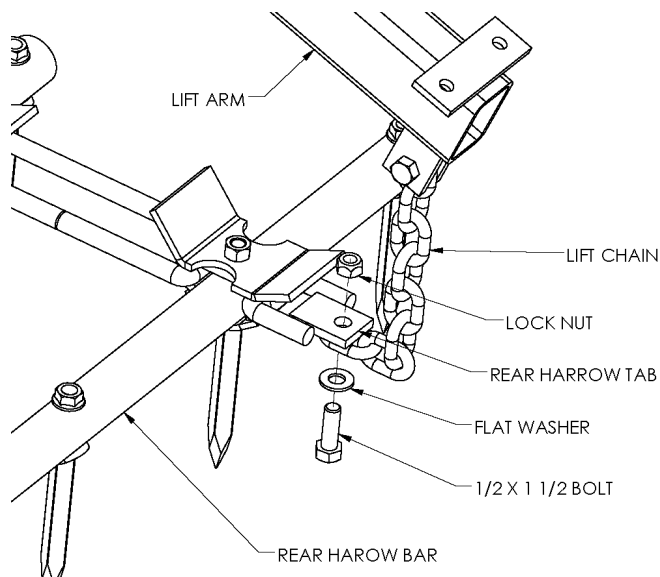

Figure 32
2. Bolt the lift chains to the bottom of the rear lift tabs of the harrow sections. Refer to Figure 32.
2. Bolt the lift chains to the bottom of the rear lift tabs of the front harrow sections. Refer to Figure 32. Use 1/2" x 1 1/2" bolts, flat washers, and locking hex nuts.